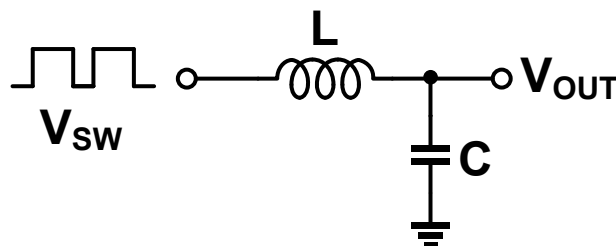
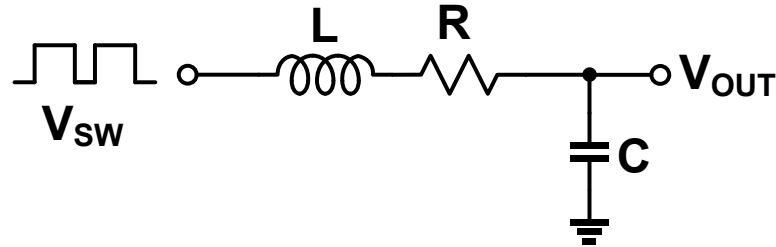
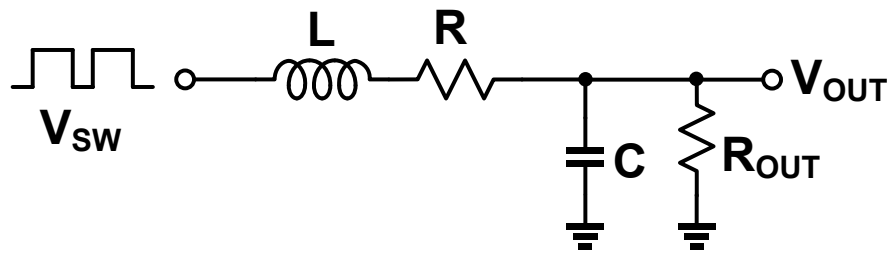

Figure 2-3 An ideal LC Low-pass Filter
Figure 2-4 A non-ideal LC Low-pass Filter
Figure 2-5 A non-ideal LC Low-pass Filter with resistive load  $R_{OUT}$
In reality, inductor has a small series resistance call DCR and LC Low-pass filter in Figure 2-3 becomes a RLC filter as shown in Figure 2-4 which further modifies as Figure 2-5 with presence of resistive load  $R_{OUT}$ .
**Exercise 2-1** Derive the AC transfer function of LC low-pass filters shown in Figure 2-3, Figure 2-4 and Figure 2-5. Find expressions for centre frequency  $\omega_o$  and quality factor  $Q_o$  for all the three filters. Study the effect of  $R$  and  $R_{OUT}$  on  $\omega_o$  and  $Q_o$ .